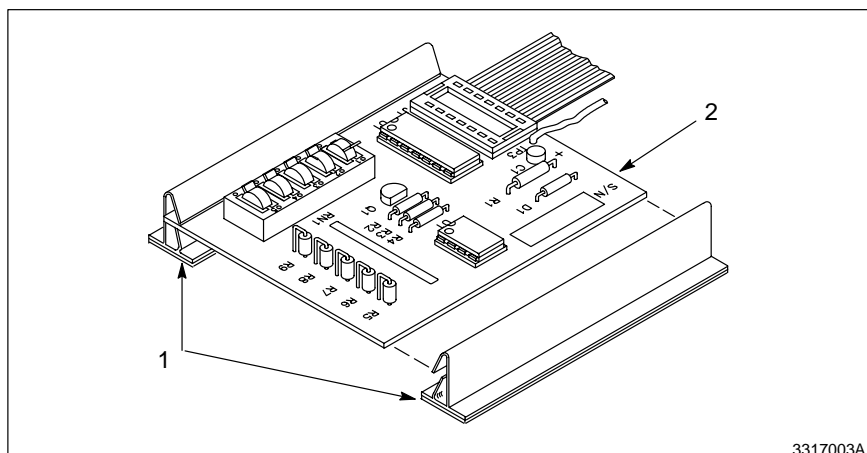

Figure 4 Installing mounting clips on AFC circuit board
5. See Figure 4. Install the mounting clips on the AFC circuit board.